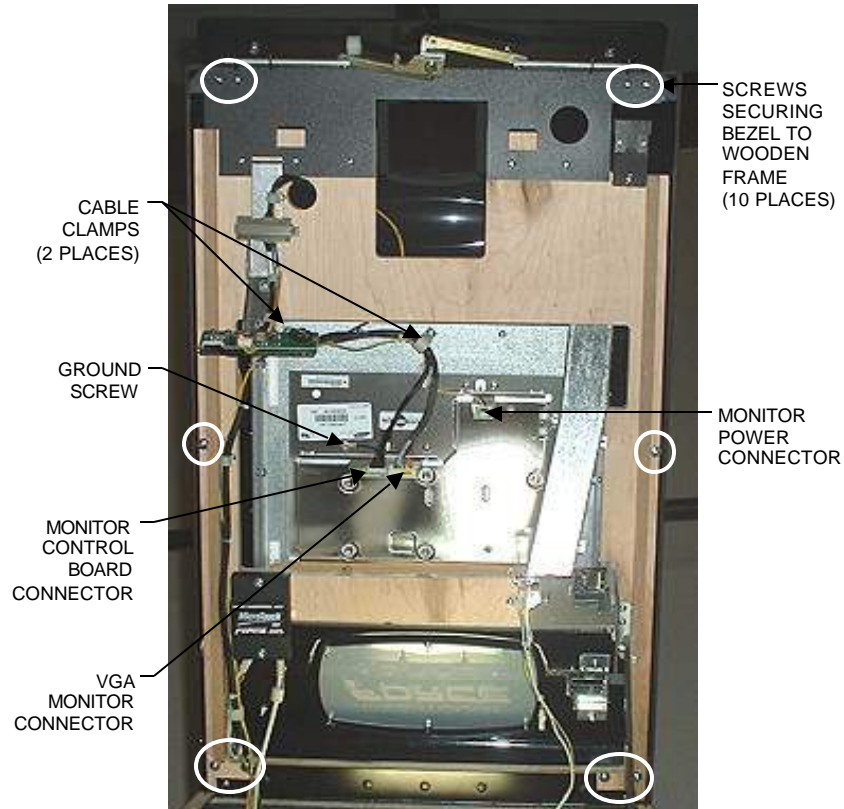

FIGURE 5 - FUSION WITHOUT ELECTRONICS BOX - UNDERSIDE OF BEZEL
3. Disconnect the VGA monitor connector and ground screw, the monitor control board connector, and the monitor power connector and also remove the cables from the 2 clamps attached to the monitor. See Figure 5.
5. Remove the 10 screws securing the plastic bezel to the wooden frame (see Figure 5) and carefully remove the bezel from the game. Be careful not to damage the bezel with the coin cup during removal.
4. Carefully replace the plastic bezel assembly in the game, making sure the coin cup protrudes into the lower cutout and no wires are pinched, then secure it to the wooden frame with the 10 screws (see Figure 5).
6. Connect the VGA monitor connector and ground screw (do not over-tighten), the monitor control board connector, and the monitor power connector (see Figure 5) to the new monitor and replace the cables in the 2 clamps attached to the monitor.